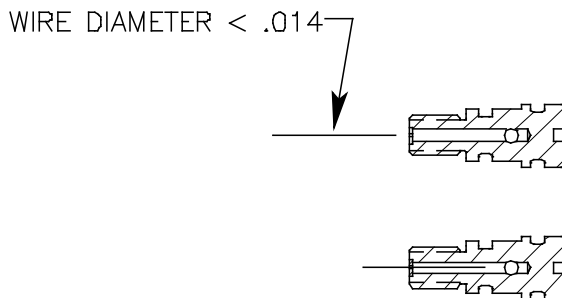

FIGURE 8
3) Clogged Orifice.	3) Remove orifice screw and clean orifice with wire or pin <0.014 in diameter (See figure 8).
2) Orifice blocked	2) Remove orifice screw and clean orifice with wire or pin <0.014 in diameter (See figure 8).